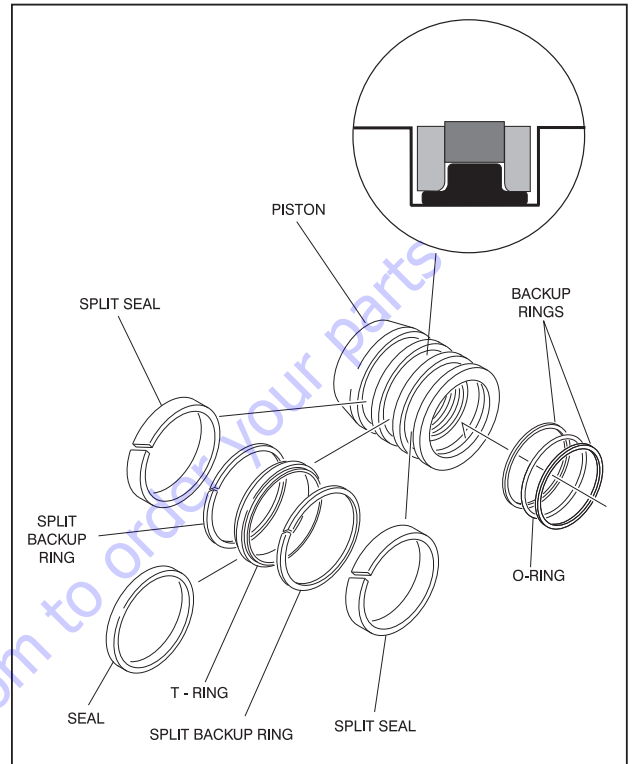

Figure 5-9. Piston Seal Kit Installation
NOTE: The backup rings for the solid seal have a radius on one side. This side faces the solid seal. (See magnified insert in Figure 5-9.) The split of seals and
16. Place new guide locks and seals in the applicable outside diameter grooves of the cylinder piston. (See Figure 5-9., Piston Seal Kit Installation)